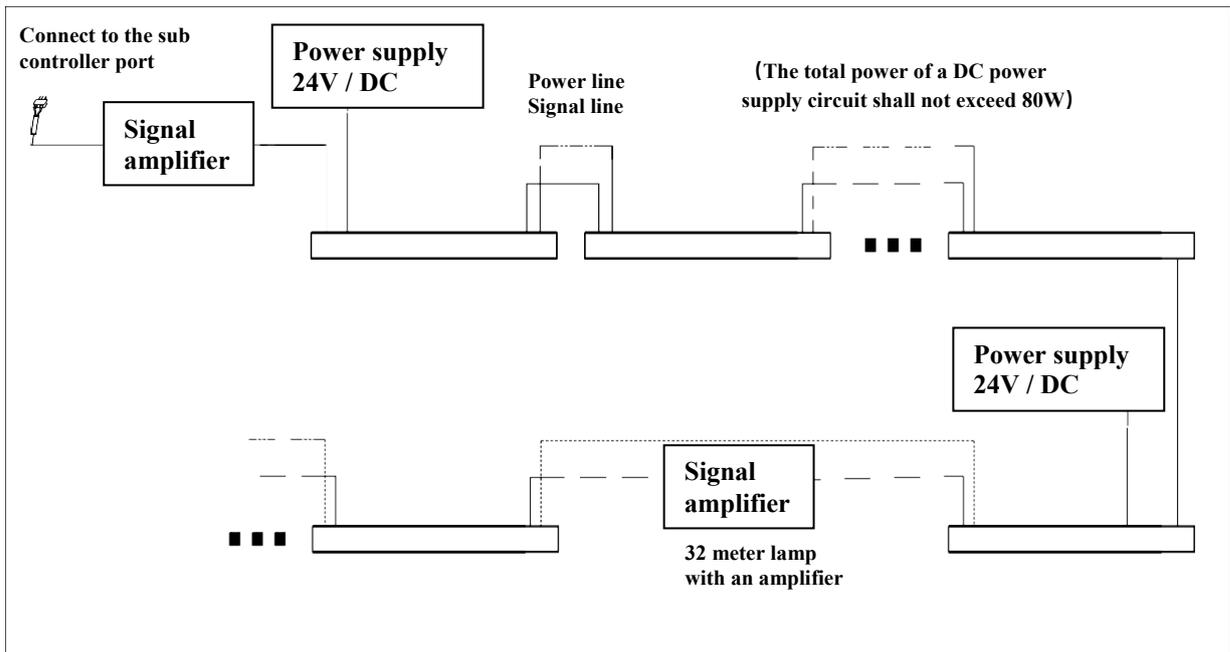

Figure 5
5. The wiring of lamps with dimming function is shown in Figure 5